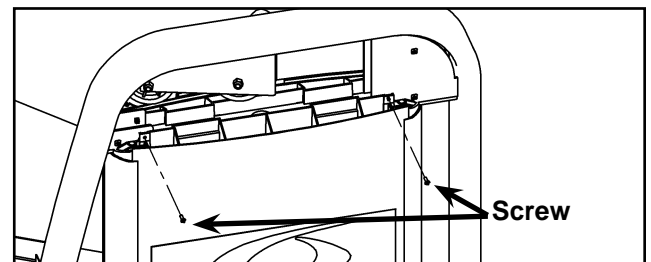

Figure 12
- B. Install the top two screws securing the back shroud assembly. See Figure 12.